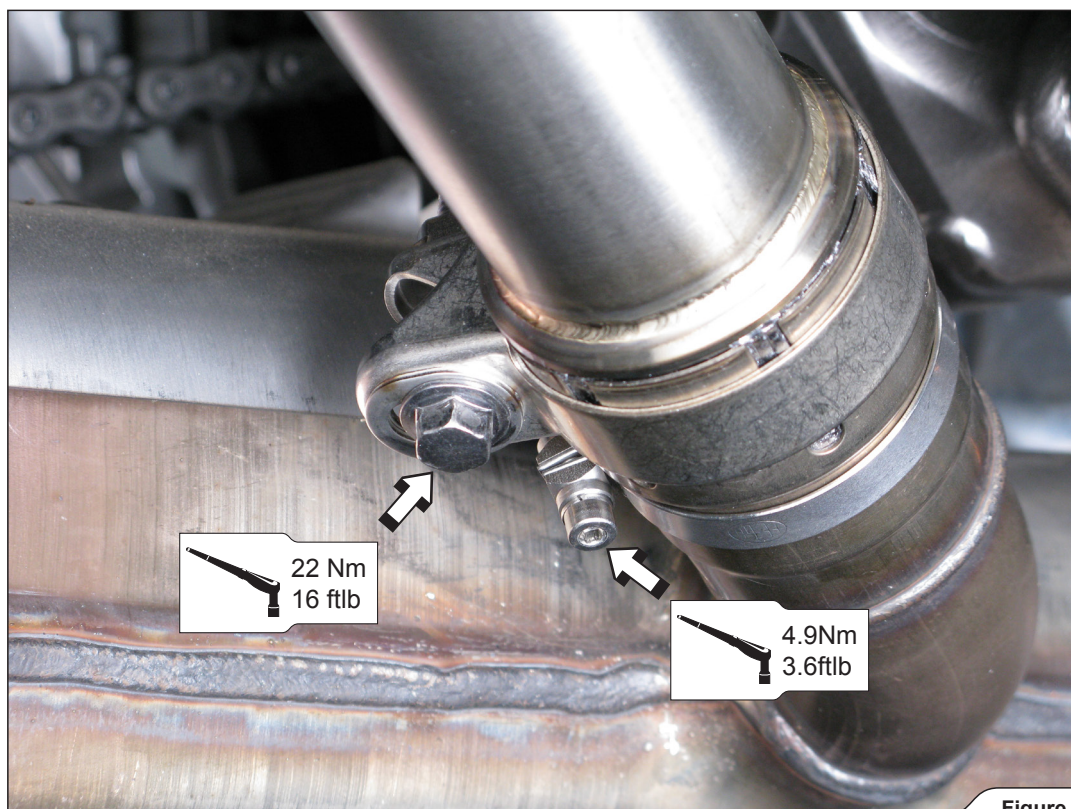

Figure 9
5. Tighten the hook clamp and the metal clamp to a specified torques (**Figure 9**).